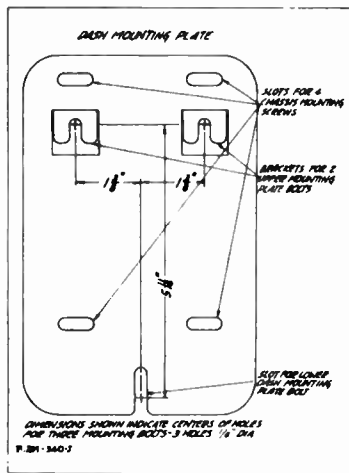

Fig. 5—Dash Mounting Plate
In Fig. 5 (B) is shown how the brackets may be mounted vertically if space does not permit their being mounted horizontally, as is the case in some cars.